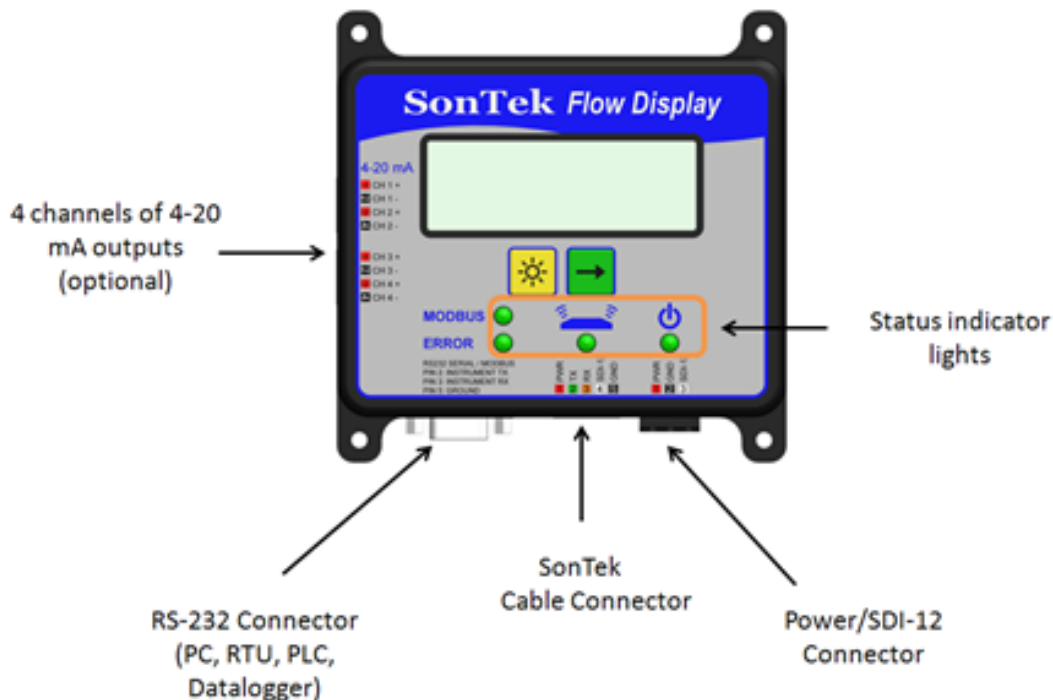

Figure D1. SonTek-SL Flow Display with analog outputs
- The analog output display that includes four channels of 4-20 mA output (Figure D1).